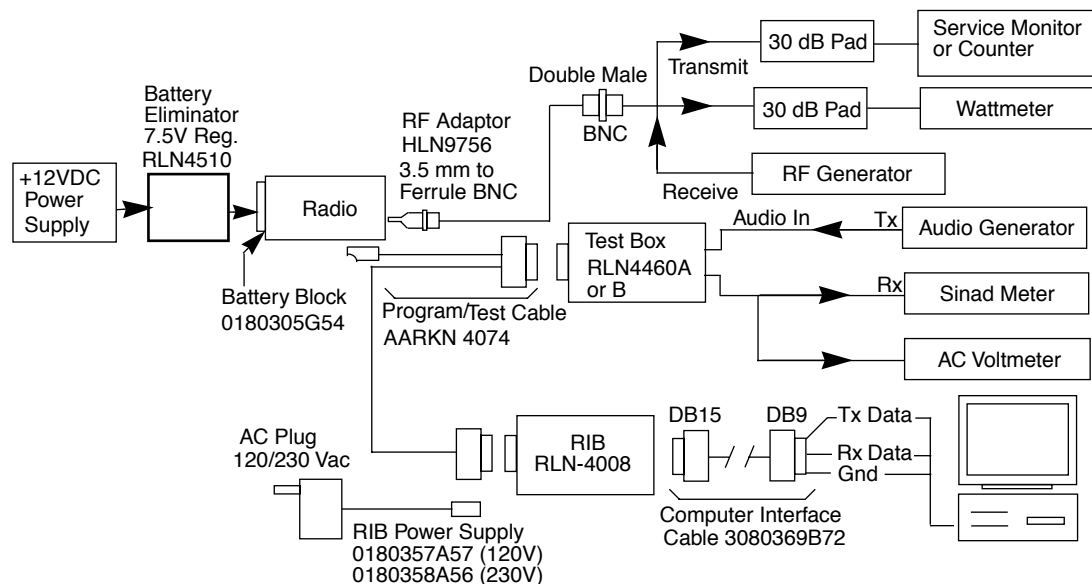

Figure 5-1. Radio Tuning Test Equipment Setup
A personal computer (PC), Windows 95/98/NT, and a global tuner program are required to tune the radio. To perform the tuning procedures, the radio must be connected to the PC, radio interface box (RIB), and test equipment shown in Figure 5-1.